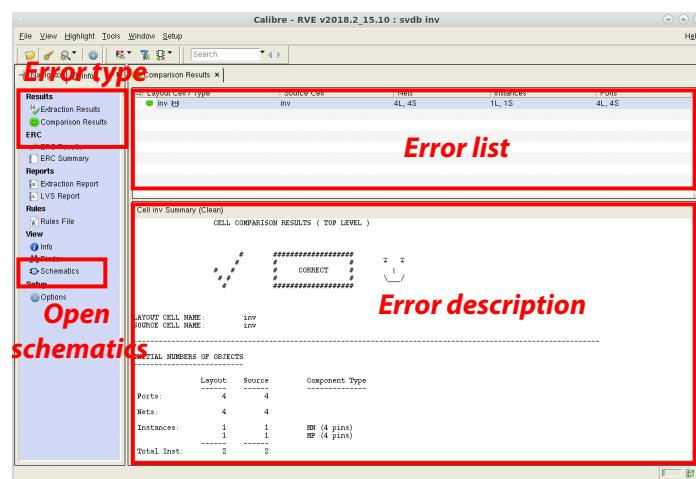

Figure 17: LVS result window.
4. Then Click on Run LVS, wait a little bit and the potential LVS errors will be displayed. A new LVS result window should appear. If your layout is correct, you should see the green smiley and icons as shown in Fig. 17. If not, it means you have some errors. On the left pane are listed the different errors as follows: